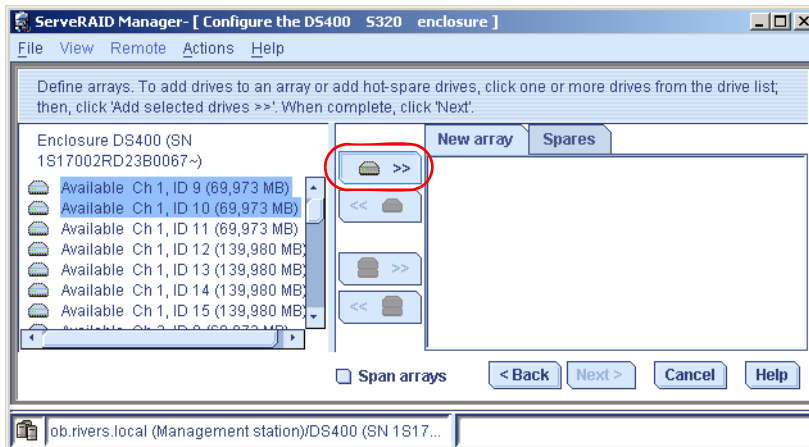

Figure 4-89 Select drives for the new array
4. Hold **Ctrl** and click the two drives which will build the array (the first two drives selected to build the first array). Then click the **Add selected drives to array** button. See Figure 4-89.